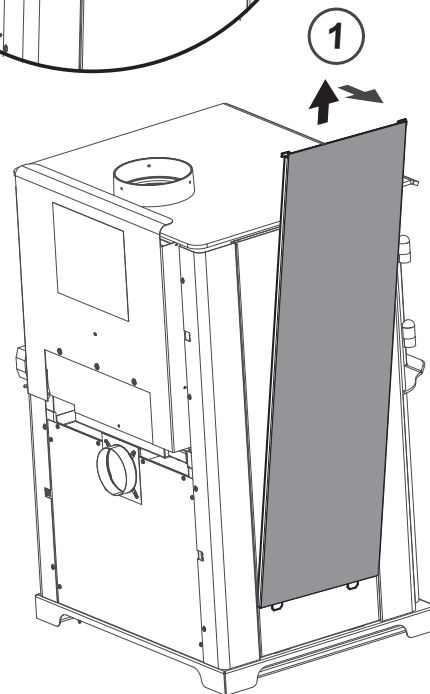

Figure 17.4
1. Remove solid panel from side by lifting up and pulling away from appliance (use a flat tool to pry from bottom if needed). **Figure 17.4**
2. Remove tile frame from side by lifting up and pulling away from appliance (**Figure 17.4** reference **solid side panel removal**).